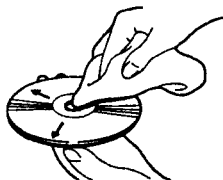

Fig. 13
- Dust and/or finger smudges will have no direct effect on the signal recorded on the disc, but dirt can decrease the amount of light reflected from the recorded surface, thus affecting sound quality. If the disc should become soiled, gently wipe the surface with a soft lint-free cloth, wiping from the center of the disc to the edge. (Fig. 13)